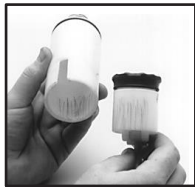

Figure 3.
3. Check the outside of the piston and inside of the cylinder for scratches. If the piston or cylinder are scratched, replace with part# 0610409-K (piston) or part# 4073190 (cylinder). Figure 3.